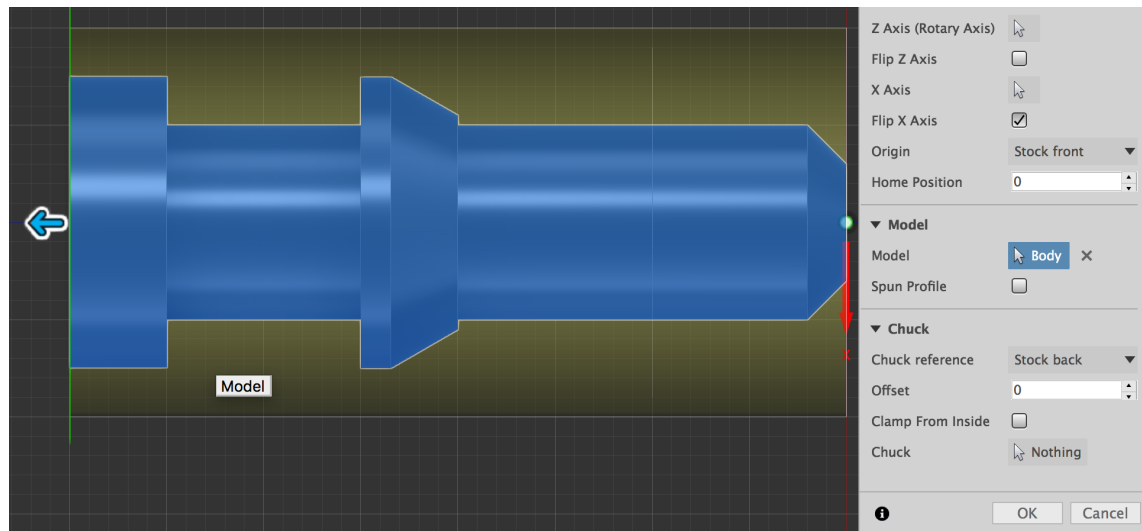

FIGURE 1.13: SELECTED MODEL FOR FUSION TO MACHINE.
- This can be done by clicking **Model**, and then selecting the body that is to be machined. This can be seen in Figure 1.13.